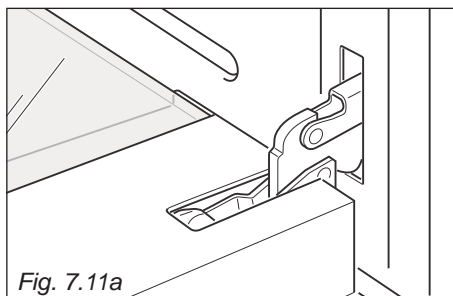

Fig. 7.11a
- Open the door to the full extent (fig. 7.11a).